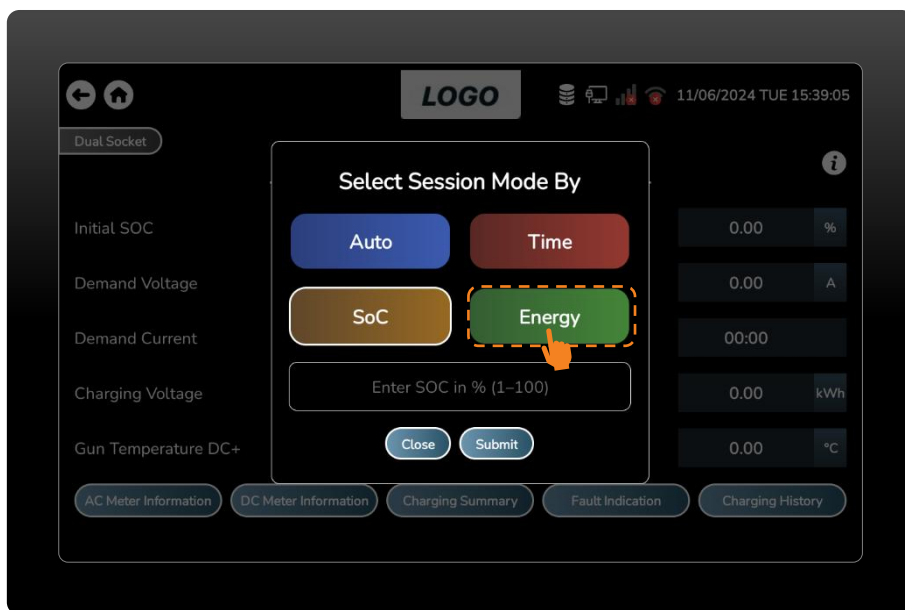

Figure 60 Energy Mode Selection.
- Energy mode enables the user to choose the energy consumption, which ranges from 0.01 to 999.99, allowing them to charge the vehicle at a certain energy consumption. (Figure 60)